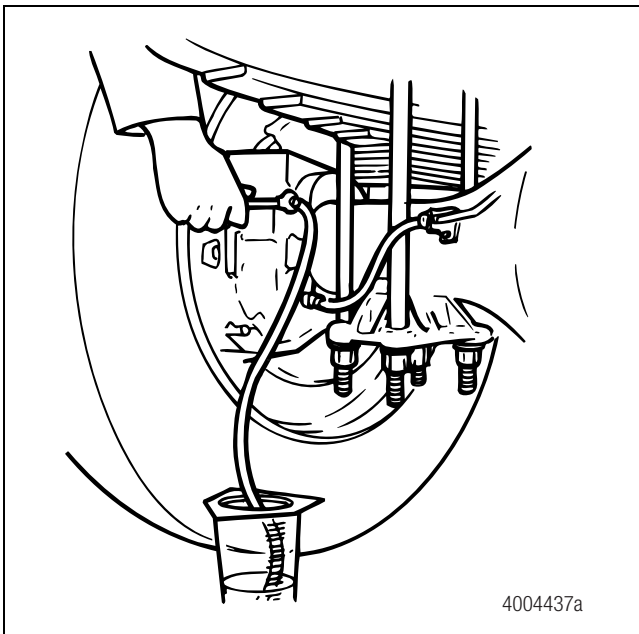

Figure 4.45
- C. Use a wrench to open the bleeder fitting screw to the torque value specified by the component manufacturer. Figure 4.45.